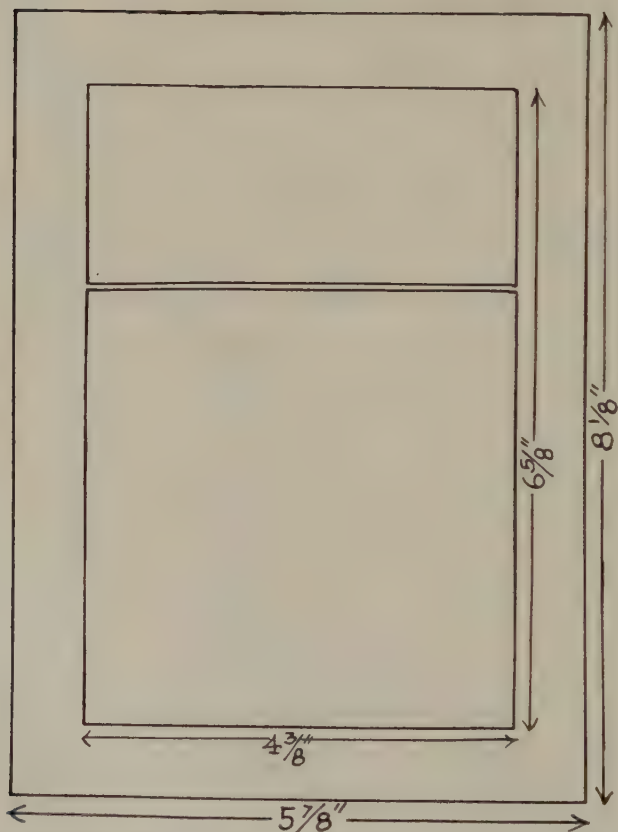

FIG. 69—DIAGRAM OF EASEL BOARDS, SHOWING LAYOUT AND DIMENSIONS FOR COVERING PAPER FOR VISIBLE SIDE.
6. Take the two pieces of board $4\frac{3}{8}$ " x 2" and $4\frac{3}{8}$ " x $4\frac{5}{8}$ " and lay them side by side, with edges "buted" close together. (Fig. 69.)
7. Now cut a "facing" piece of a different paper (select a lighter color but harmonious in tone) as you did for the main board. This piece with same allowance of $\frac{3}{4}$ " on all sides for turn-ins will be $5\frac{7}{8}$ " x $8\frac{1}{8}$ ", grain $8\frac{1}{8}$ " way. (Fig. 69.) Cut the corners as you did on the first board.